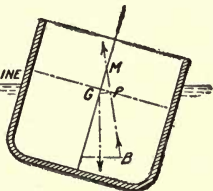

FIG. 51.—Principle of Stability.
**79. Stability of a Ship.**—A ship at sea is subject to rolling and pitching and must be designed to be stable and not capsize. Rolling is the motion of a ship from side to side. Pitching is the alternate rising and falling of bow and stern. In general a ship's motion is a combination of rolling and pitching. The principle of hydrostatics (water pressure) governing the stability is as follows: When a ship is floating at rest its center of gravity and its center of buoyancy are in the same vertical line. If the force of winds or waves causes the vessel to keel over as in Fig. 51, the weight of the ship  $W$  acting downward through  $G$ , and her buoyancy acting upward through  $B$  constitute a couple\* which tends to pull the ship back again upon an even keel with a turning moment equal to  $W \times GP$ . If the couple be strong enough the ship will swing back towards an even keel. But since the vessel acquires kinetic energy as it swings, it will not